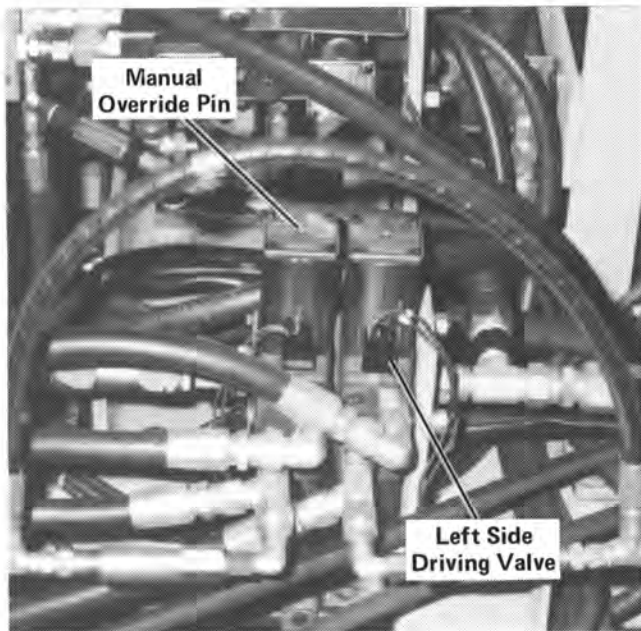

Figure 30
- A. With the engine at full rpm, manually extend a driving cylinder on the left side of the machine (viewed from engine end) by pushing the manual override pin on the driving valve until it is completely retracted. See Figure 30.